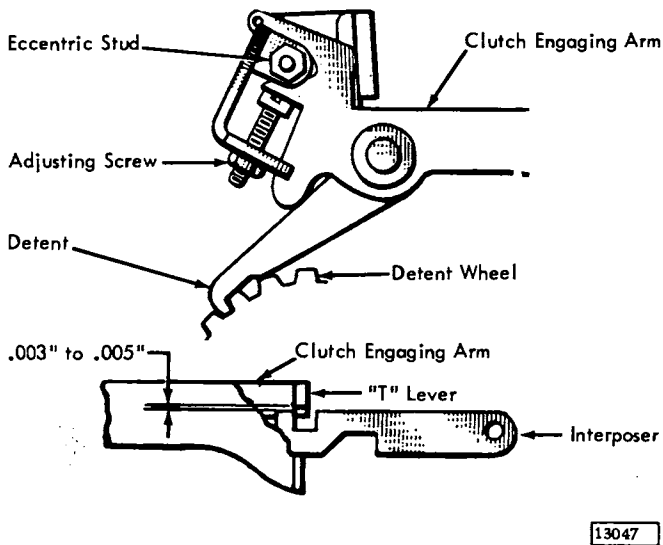

Figure 4-28. Clutch Engaging Arm
1. With the detent in a latched position, turn the adjusting screw so that the high-speed clutch engaging arm positions the interposer with 0.003" to 0.005" clearance between the top side of the interposer and the T-lever (Figure 4-28). Make the same adjustment for the low-speed interposer. It is recommended that the high side of the eccentric be placed in the up position.